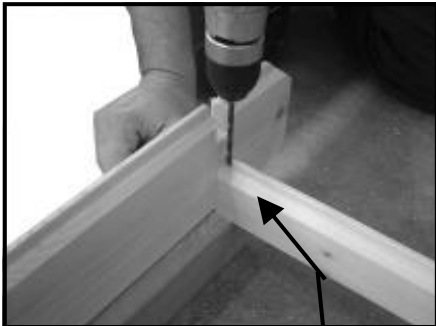

Fig D5
8. Cut notches out of the tongues on the **A1** logs (fig D5 & D6) at centre marks (previous steps) and drill through for fixing to the bearers .
11. Also measure length at the centre of the building from wall to wall (**A1 to A1**) to ensure correct length before fixing to joists with 1x 80mm screw (fig D5 & D5) at each bearer .